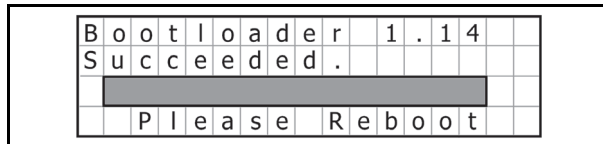

Figure 53 EEPROM Update Success Screen
- Once the update is complete, the LCD Screen will display the “Bootloader X.XX Succeeded.” message (See Figure 53).